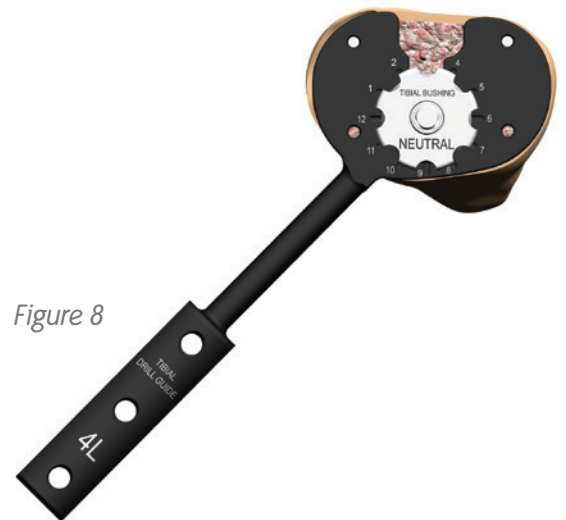

Figure 8
3. Using headless pins, pin the Tibial Drill Guide to the proximal tibia (*Figure 8*).